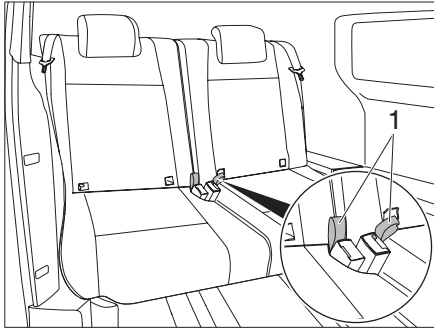

Fig. 19 Tip bench backwards
- ▶ Pull the slings (Fig. 19,1) and fold back the bench backrest.